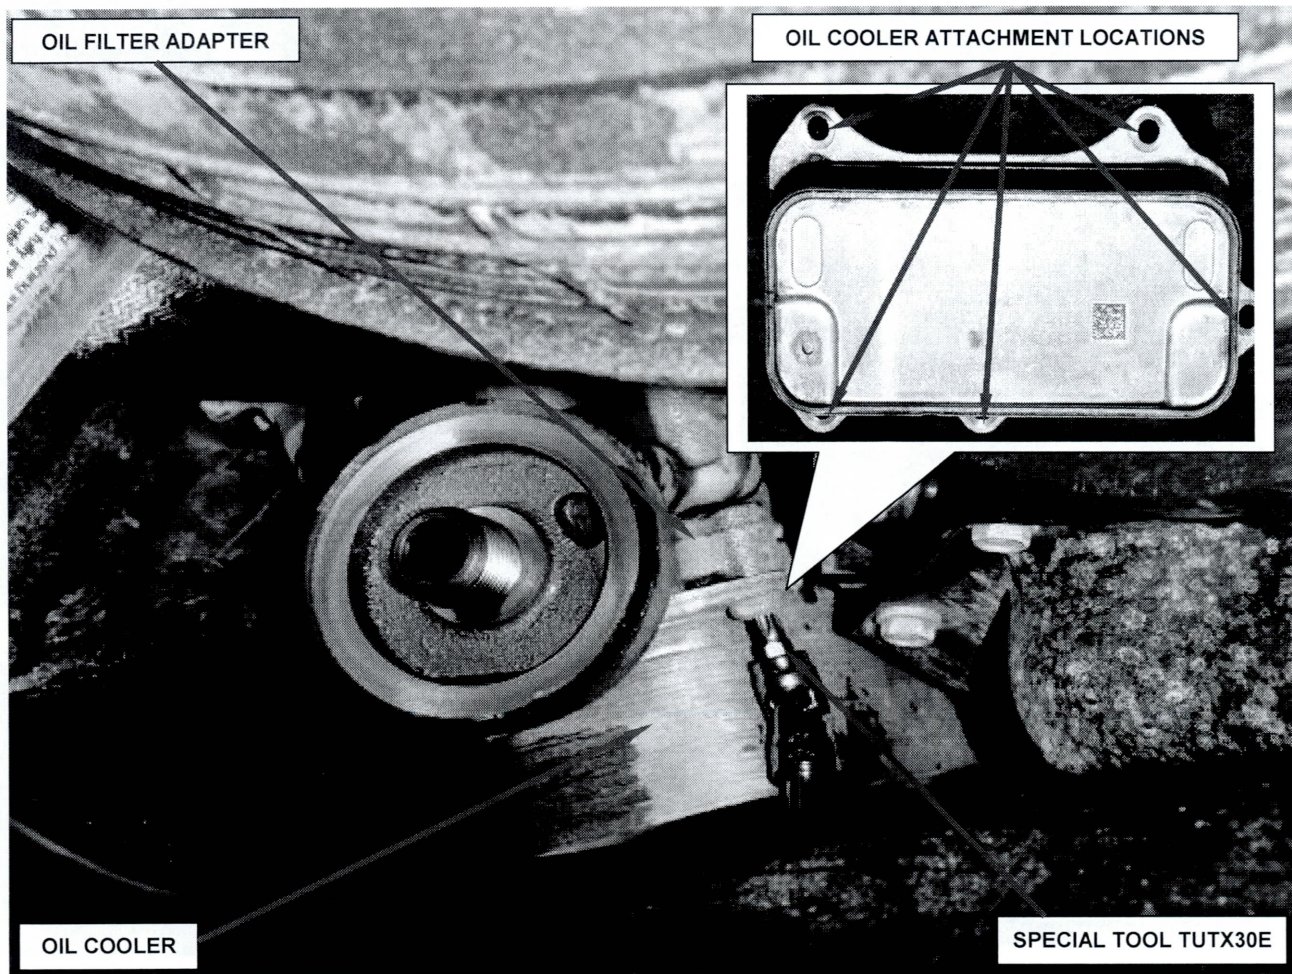

Figure 3 – Oil Cooler
8. Using **special tool TUTX30E**, remove and save the five oil cooler attachment bolts (Figure 3).
17. Using **special tool TUTX30E**, tighten the five oil cooler attachment bolts to 9 ft. lbs. (12 N·m) (Figure 3).